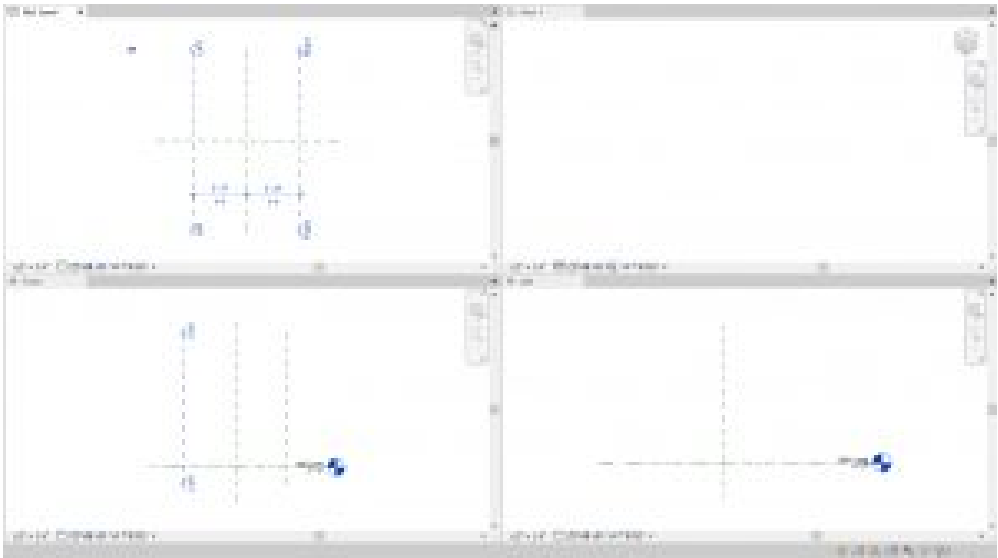

Figure 5.2 Vertical reference planes created and labeled
5. Use the witness lines to change the distance to the center reference plane to 3'0" as shown in Figure 5.2